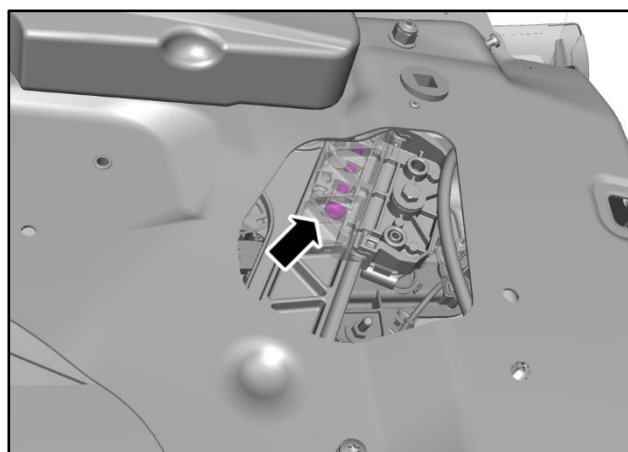

Figure 6
15. Fully tighten the vertical adjustment screw for the rear regulator cursor (refer to Figure 6).